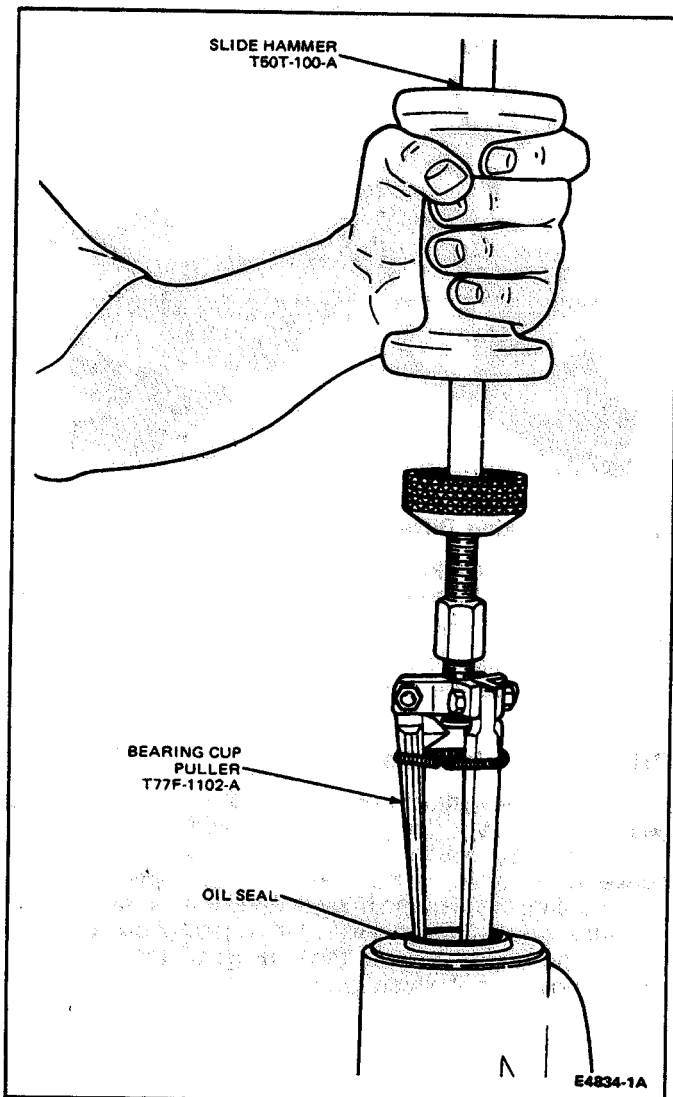

FIG. 20 Oil Seal Removal
9. Remove the drive pinion oil seal from the carrier bore by using Bearing Cup Puller, T77F-1102-A, and Slide Hammer, T50T-100-A (Fig. 20). Replace the oil seal with a new seal during assembly.